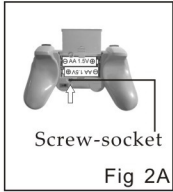

Fig 2A
1. Open the battery cover of remote controller as the Fig 2A showed, inserts 2pcs of 1. 5V AA batteries and then screws the cover.